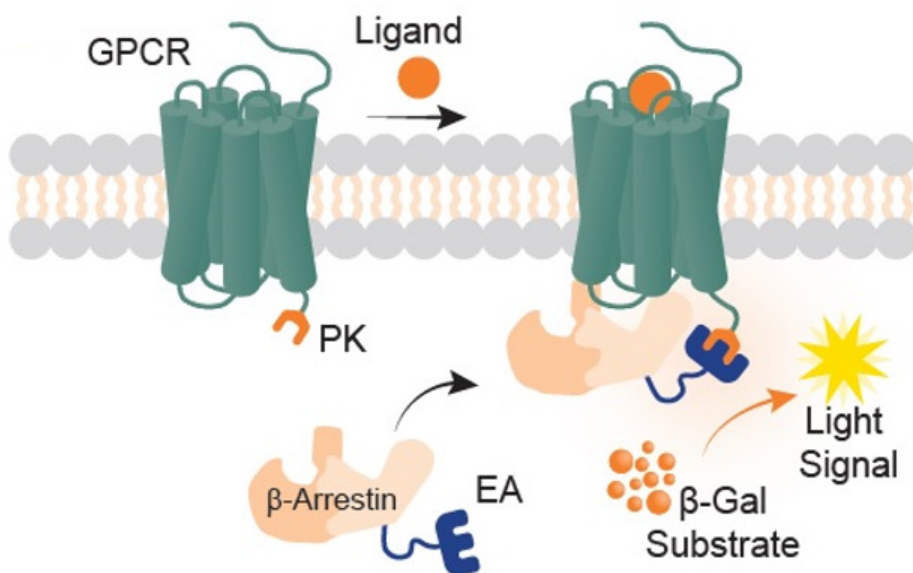

Figure 2. Assay Principle
The target GPCR is tagged with the small fragment of β -gal called ProLink™ (PK), a low affinity version of ED, and co-expressed in cells stably expressing β -Arrestin tagged with EA (Figure 2). Activation of the GPCR stimulates binding of β -arrestin to the ProLink-tagged GPCR, forcing complementation of PK and EA, resulting in the formation of an active β -gal enzyme. The resulting active enzyme hydrolyzes substrate present in the PathHunter® detection reagents to generate light.